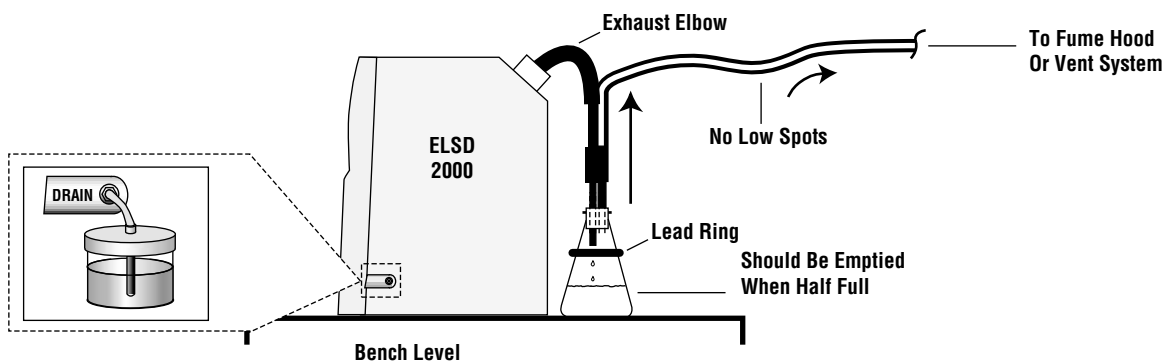

Figure 2.5
**6. Exhaust Connection:** Connect the exhaust elbow provided to the EXHAUST outlet on the rear panel of the unit. Extend the exhaust tubing from the elbow to the condensation trap. The tubing should permit continuous downward flow of any condensate into the collection flask. The lead ring can be placed on the collection flask for stability. Connect the additional piece of exhaust tubing to the condensation trap and direct to a fume hood or other ventilation system. There should be no low spots in the tubing where condensate can collect. If necessary, the exhaust tubing can be shortened by cutting with a razor to the desired length. See Figure 2.5 below.